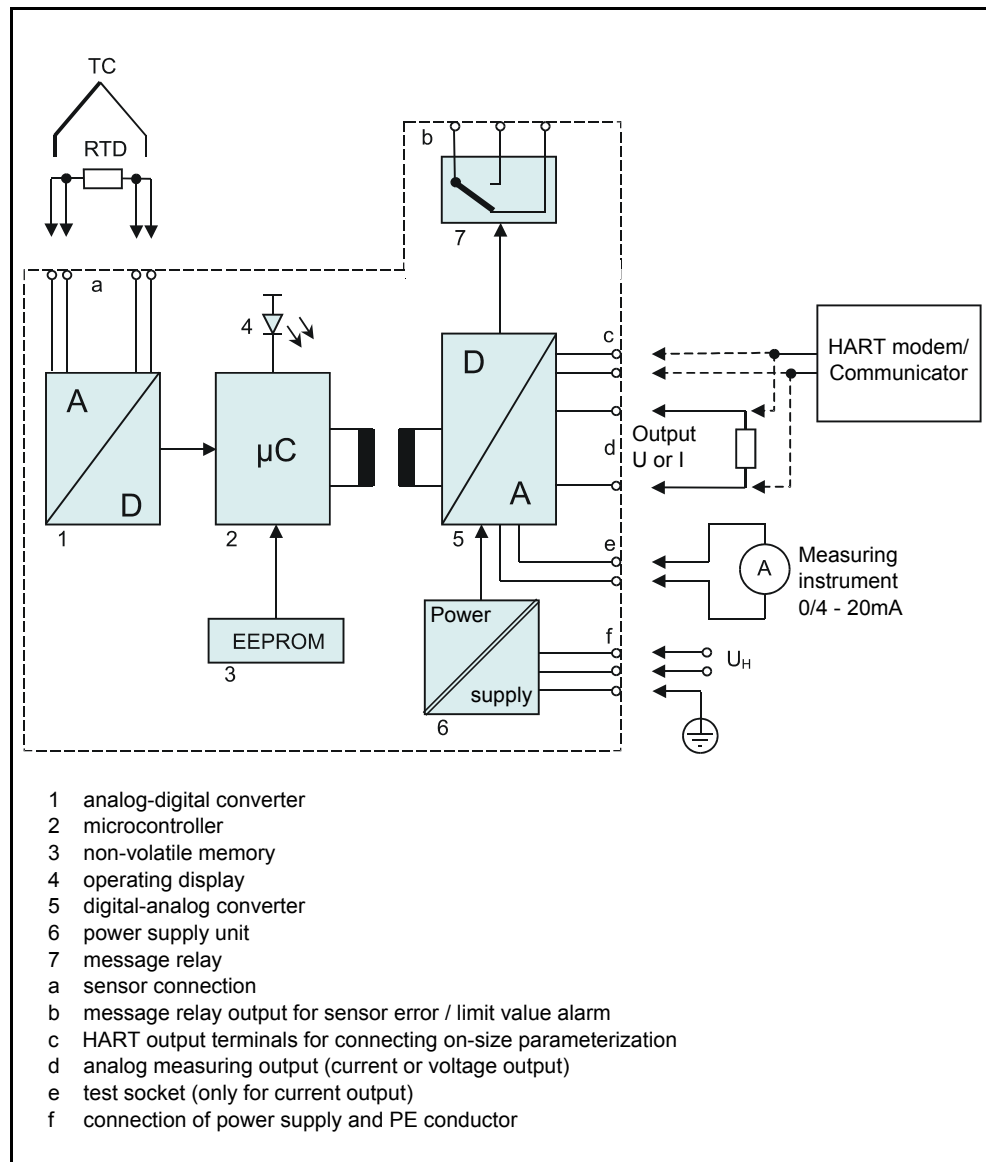

Figure 5 Block diagram SITRANS TW transmitter, 4-wire mounting rail device
The measuring signal supplied by a resistance transmitter (two, three or four-wire circuit), voltage transmitter, current transmitter or thermocouple is converted into a digital signal in an analog-digital converter (1, figure 5, page 86). This is evaluated in a microcontroller (2) corrected according to the sensor characteristic and converted into an output current (0/4 ... 20 mA) or an output voltage (0/2 ... 10V) in a digital-analog converter (5). The sensor characteristics and the data necessary for parameterization of the transmitter are stored in a non-volatile memory (3).